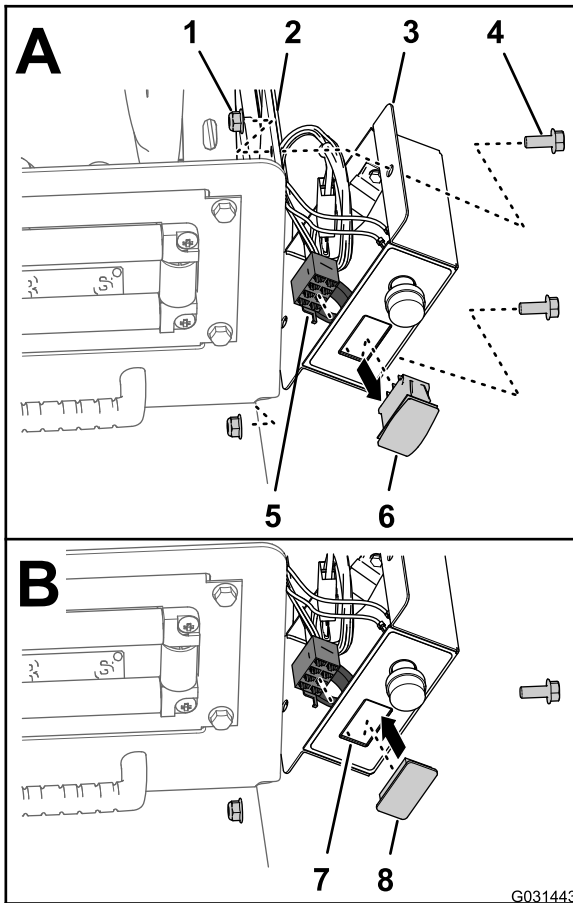

Figure 7
1. Remove the 2 bolts (5/16 x 3/4 inch) and 2 locknuts (5/16 inch) that secure the control box to the reel-mounting plate (Figure 7).
2. Disconnect the 8-socket connector for the control box harness from the PRESSURE-CONTROL switch (Figure 7).
3. Route the 8-socket connector inside the control box (Figure 7).
4. Squeeze the lock tabs of the PRESSURE-CONTROL switch and press the switch out of the control box (Figure 7).
5. Align the switch plug to the opening in the control box where you removed the switch (Figure 7).
6. Insert the switch plug into the control box until the plug snaps into the cover securely (Figure 7).
7. Align the control box to the reel-mounting plate (Figure 7) and secure the box to the plate with the 2 bolts (5/16 x 3/4 inch) and 2 locknuts (5/16 inch).